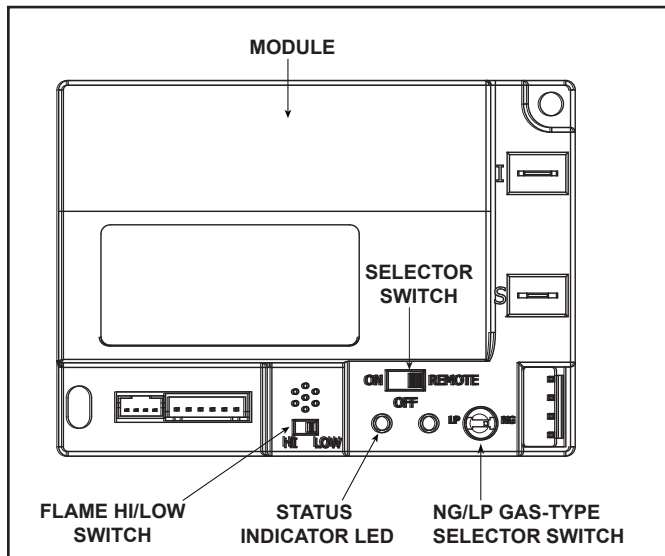

Figure 3.4 Control Module
- Slide the ON/REMOTE/OFF switch to the ON position. See Figure 3.4.
1. The control module has an ON/OFF/REMOTE selector switch that must be set. See Figure 3.4.
2. If using a wired wall switch with the module in REMOTE mode, the flame output can be adjusted with the HI/LO selector switch on the module. See Figure 3.4. Note that the flame HI/LO selector switch will become inactive once the remote control (RC200) is programmed to the control module. Note that the control module will always ignite the fireplace on HI and remain so for the initial 10 seconds of operation. If the HI/LO is switched to the LO position, the flame output will automatically drop to the lowest setting after the flame has been established for 10 sec. After this 10 second period, the flame can be adjusted from HI to LO with the switch.
- Locate the module selector switch. (See Figure 3.4).
- Wait five (5) minutes to allow possible accumulated gas to clear.